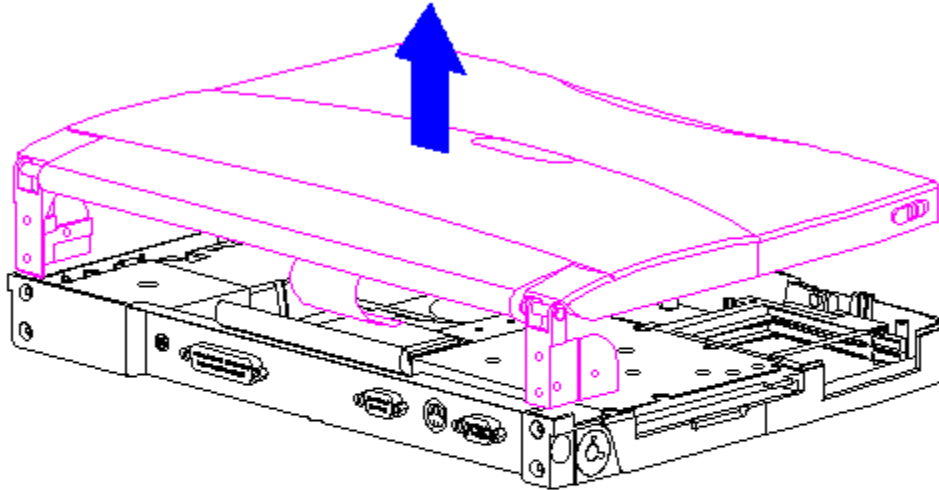

Figure 5-129. Removing the Display Assembly from the System Unit Module
10. Lift the display assembly off the system unit module (Figure 5-129).